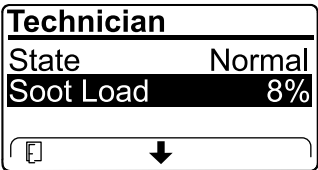

Figure 36
- View the soot load which is measured as the percentage of soot in the DPF(Figure 36); refer to the soot-load table.